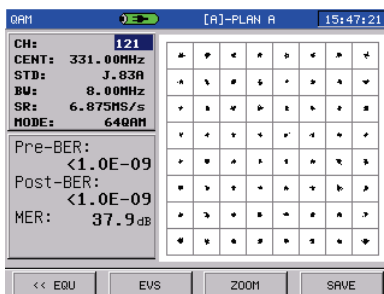

Figure3-2-9
In QAM measurement interface, press  and  to turn to the second page as Figure 3-2-9, there are four soft keys as follows:
**ZOOM(F3):** Press ZOOM soft key to enter zoom interface of Constellation diagram as Figure3-2-12. Turn knob or press   to choose the area, then press  or  to zoom in or out this area. Also you can press  or  to return Figure 3-2-9 again.